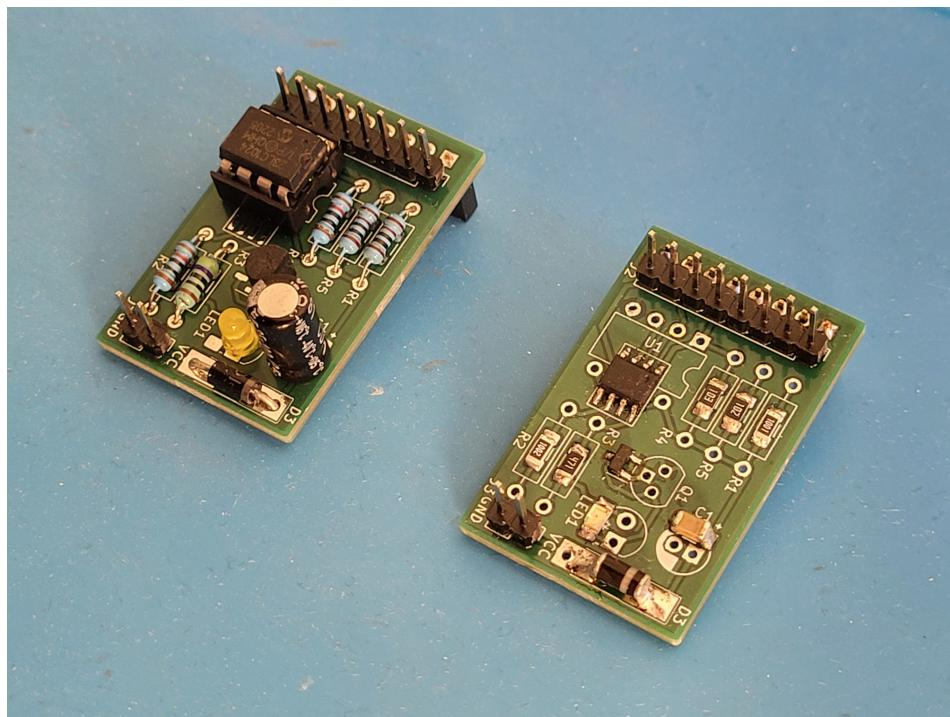

Figure 2: Board with THT components (left) vs. SMD components (right)
- The main difference is that this board supports both through-hole (THT) and surface mounted (SMD) components. Both kinds are listed in the BOM. You can mix THT and SMD components. See Figure 2 for a comparison of the different components.